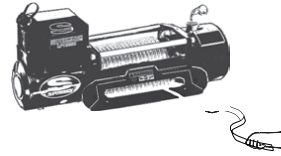

Figure 3
**ALWAYS USE THE HANDSAVER** when guiding the wire rope in or out (See Figure 3).